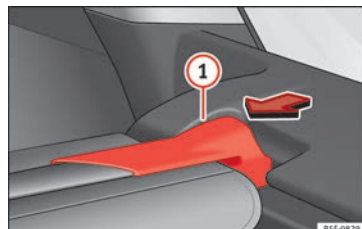

Fig. 162 In the luggage compartment: removing the rear shelf.
- Press the support of the rear shelf » **Fig. 162 1** in the direction of the arrow.
- Engage the support of the rear shelf » Fig. 162 ① in the right housing.
- Check that the support » Fig. 162 ① is properly engaged.